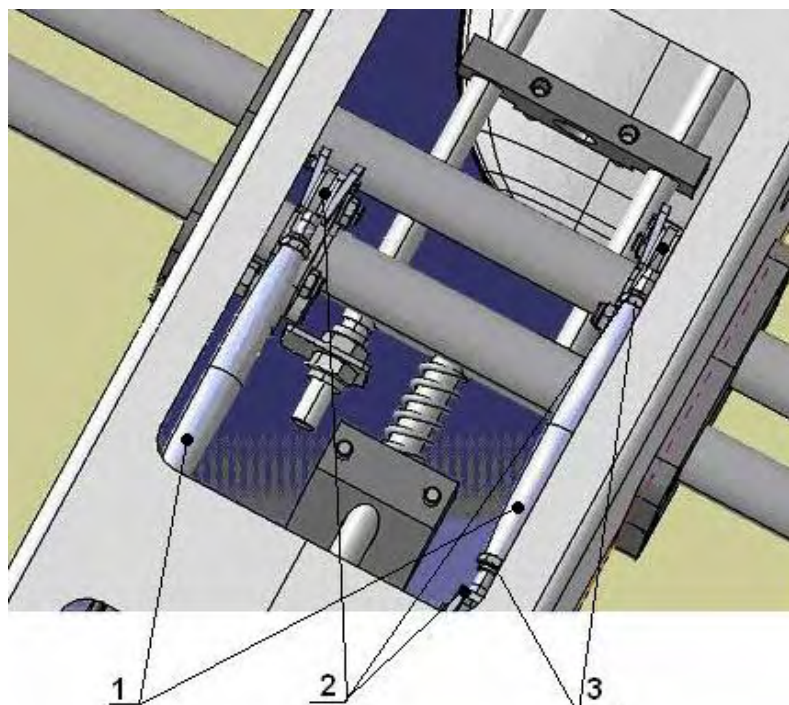

Fig. 9
If failed with fine adjustment, coarse adjustment by the threaded adjuster bushings C9997080 Turnbuckle Bluewave M6 (Fig. 9, item 1) has to be done.
2. Release the tips (Fig. 9, item 2), having loosened the locking nut (Fig. 9, item 3) by a 10x13 wrench.
6. Repeat items 4-5, if necessary.
7. Tighten the nuts (Fig. 9, item 3) by a 10x13 wrench unscrewing them from the tip towards the threaded adjuster bushing.